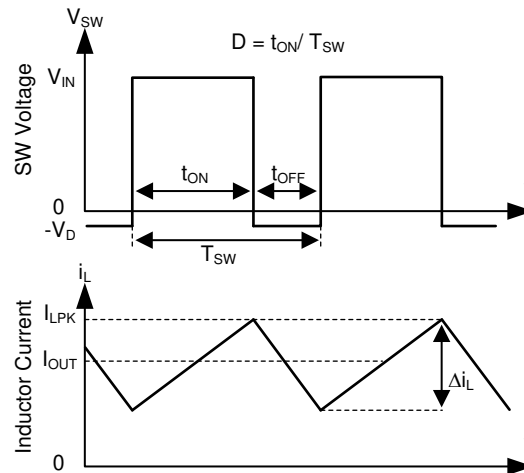

图 7-1. SW Node and Inductor Current Waveforms in Continuous Conduction Mode (CCM)
The following operating description of the LMR23625 refers to 节 7.2 and to the waveforms in 图 7-1. The LMR23625 device is a step-down synchronous buck regulator with integrated high-side (HS) and low-side (LS) switches (synchronous rectifier). The device supplies a regulated output voltage by turning on the HS and LS